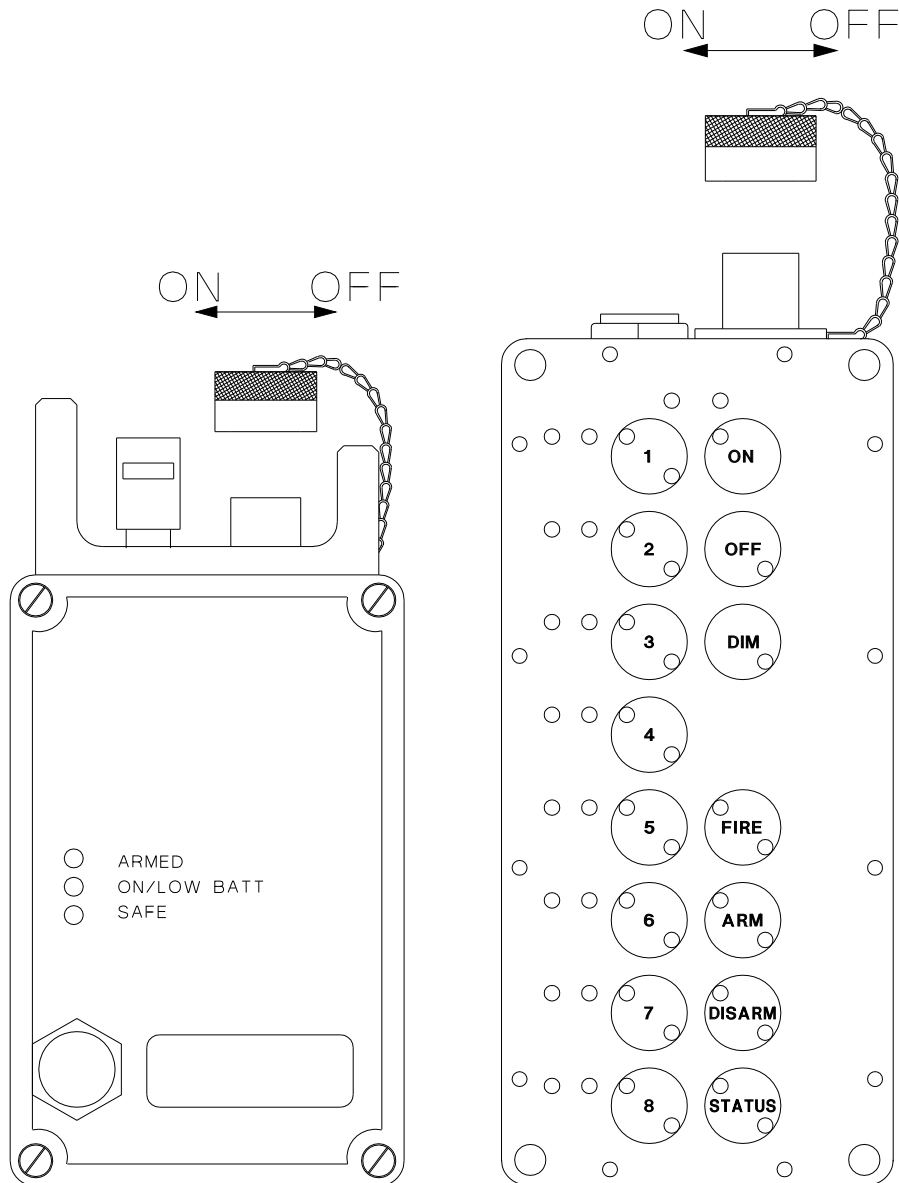

Figure 2-16 Connector Dust Cover Operation
2.13.1. In Figure 2-16, the Mini Controller Unit and Remote Unit have an antenna / battery charger connector dust cover that protects the connector pins from shorting out and damage when the Antenna Assembly or Battery Charger Assembly is not connected. The connector dust cover should be connected to the connector when the connector is not in use.